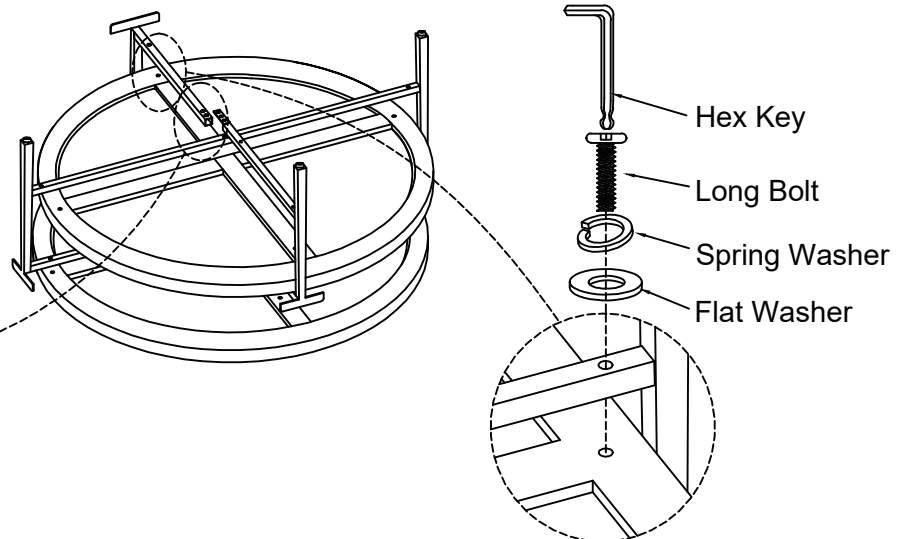

Figure 5
Assemble Short Left Leg Frame (D) with Table Top (A) & Shelf Panel (B) using the Long Bolt, Spring Washer, and Flat Washer. Tighten with the Hex Key. (See Figure 5)